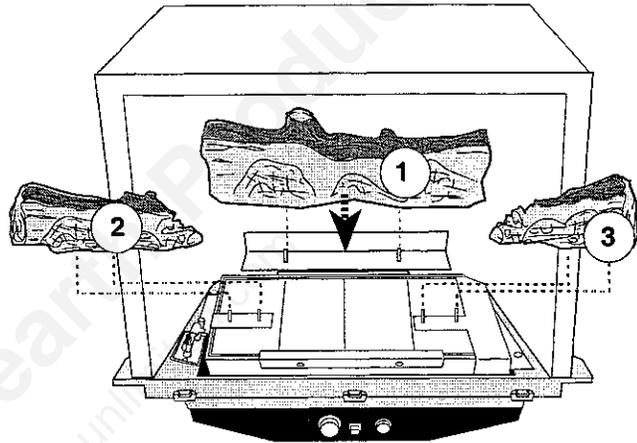

Fig. 20. Install the back, left, and right logs.
- Install the rear log (#1, Fig. 20) by engaging holes on its bottom surface with pins on the sheet-metal shelf at the back of the firebox
- Install the left and right middle logs (#2 and 3, Fig. 20) by engaging holes on their bottom surfaces with pins on the burner brackets Fig. 20